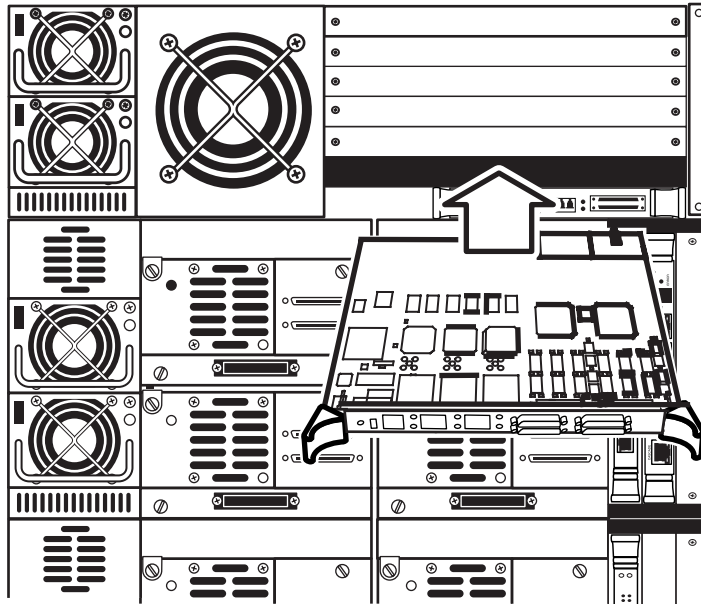

Figure 41: Installing the e2400-160 interface controller
- b. Tighten the captive screws using a #2 Phillips screwdriver (see Figure 41).